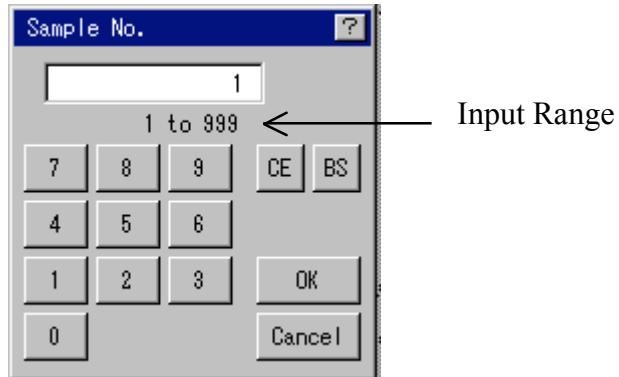

Figure 3.9 Sample number edit window
- 1) Press the [Sample No.] field in Parameters window 1 (see Fig. 3.7). The edit window shown in Fig. 3.9 is displayed.
- 2) Enter <2> in Fig. 3.9.
(4) Entering comments